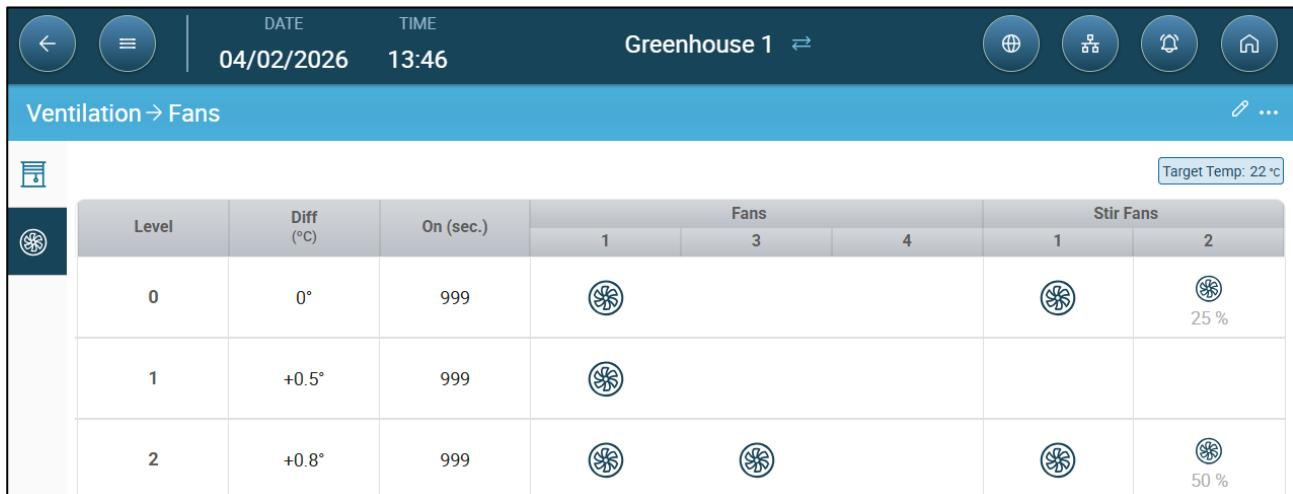

Figure 5: Variable Stir Fan Speed
- Variable speed stir fans continue working at the same level until a new level is defined; there is no ramping. In Figure 5 the stir fan works at 25% from Level 0 to Level 1. At Level 2, it rises to 50%.